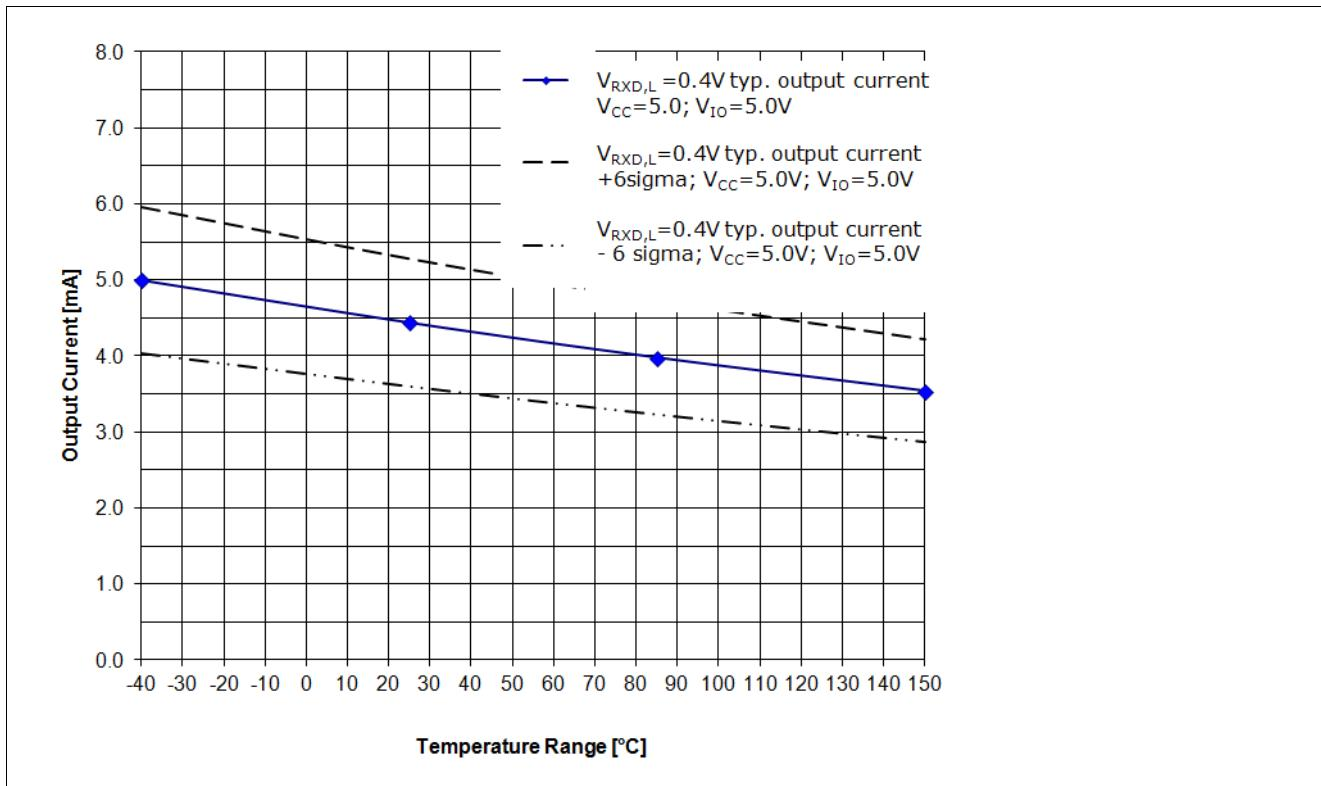
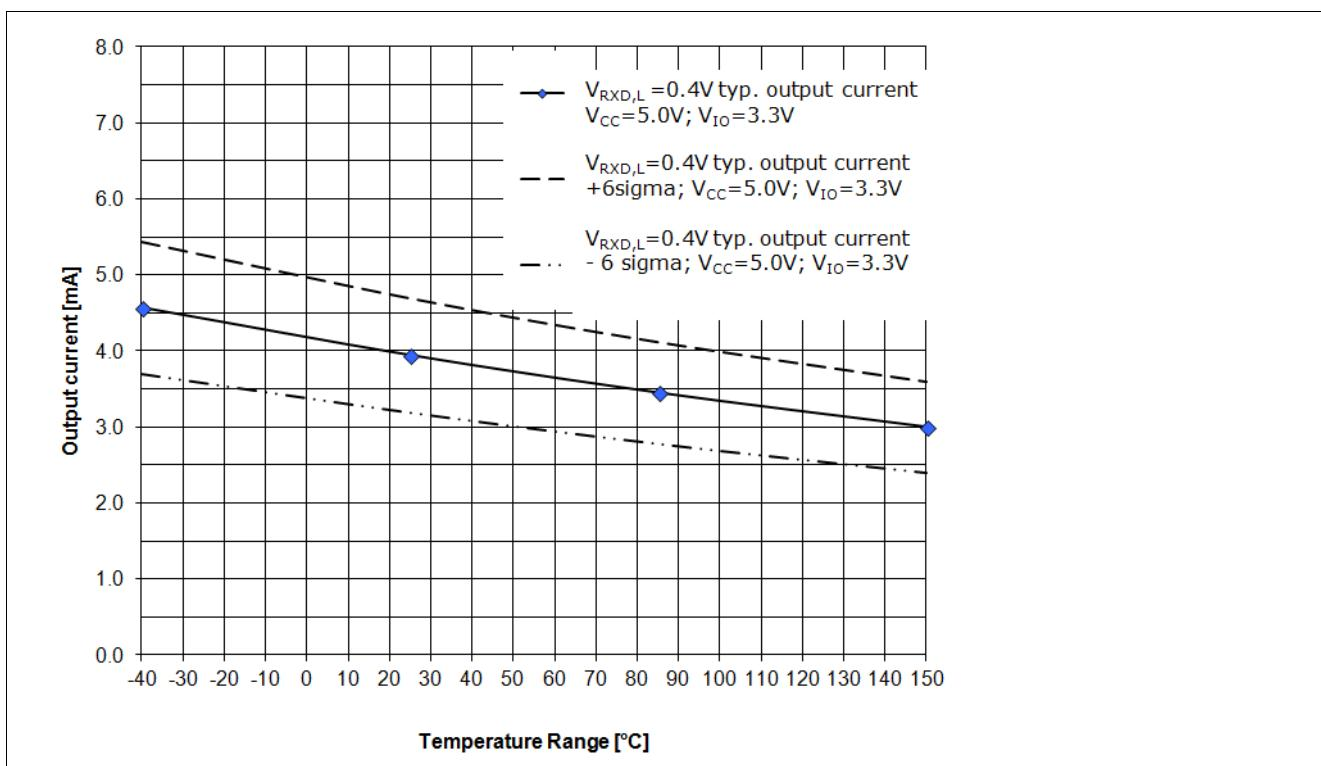

Figure 13 RxD Output driver capability for a logical “Low” signal $V_{RXD,H}=0.4$ V, $V_{CC}=5.0$ V, $V_{IO}=5.0$ V¹
Figure 14 RxD Output driver capability for a logical “Low” signal $V_{RXD,H}=0.4$ V, $V_{CC}=5.0$ V, $V_{IO}=3.3$ V¹
The diagram in Figure 13 and the diagram in Figure 14 show the current capability of the RxD output pin depended on the chip temperature T_J . Figure 13 shows the current capability of the RxD output pin at a V_{IO} power supply of 5.0 V and Figure 14 shows the current capability of the RxD output pin at a V_{IO} power supply of 3.3 V.
- The curve “ $V_{RxD,L} = 0.4$ V; typ. output current; $V_{CC} = 5.0$ V; $V_{IO} = 5.0$ V;” displays the typical output current at the RxD output pin of the TLE8250GVIO (see Figure 13).
- The curve " $V_{RxD,H} = 0.4 \text{ V}$; typ. output current + 6 sigma; $V_{CC} = 5.0 \text{ V}$; $V_{IO} = 5.0 \text{ V}$;" displays the expected maximum value of the output current at the RxD output pin (see Figure 13).
- The curve " $V_{RxD,H} = 0.4 \text{ V}$; typ. output current - 6 sigma; $V_{CC} = 5.0 \text{ V}$; $V_{IO} = 5.0 \text{ V}$;" displays the expected minimum value of the output current at the RxD output pin (see Figure 13).
- The curve " $V_{RxD,H} = 0.4 \text{ V}$; typ. output current; $V_{CC} = 5.0 \text{ V}$; $V_{IO} = 3.3 \text{ V}$;" displays the typical output current at the RxD output pin of the TLE8250GVIO (see Figure 14).
- The curve " $V_{RxD,H} = 0.4 \text{ V}$; typ. output current + 6 sigma; $V_{CC} = 5.0 \text{ V}$; $V_{IO} = 3.3 \text{ V}$;" displays the expected maximum value of the output current at the RxD output pin (see Figure 14).
- The curve " $V_{RxD,H} = 0.4 \text{ V}$; typ. output current - 6 sigma; $V_{CC} = 5.0 \text{ V}$; $V_{IO} = 3.3 \text{ V}$;" displays the expected minimum value of the output current at the RxD output pin (see Figure 14).